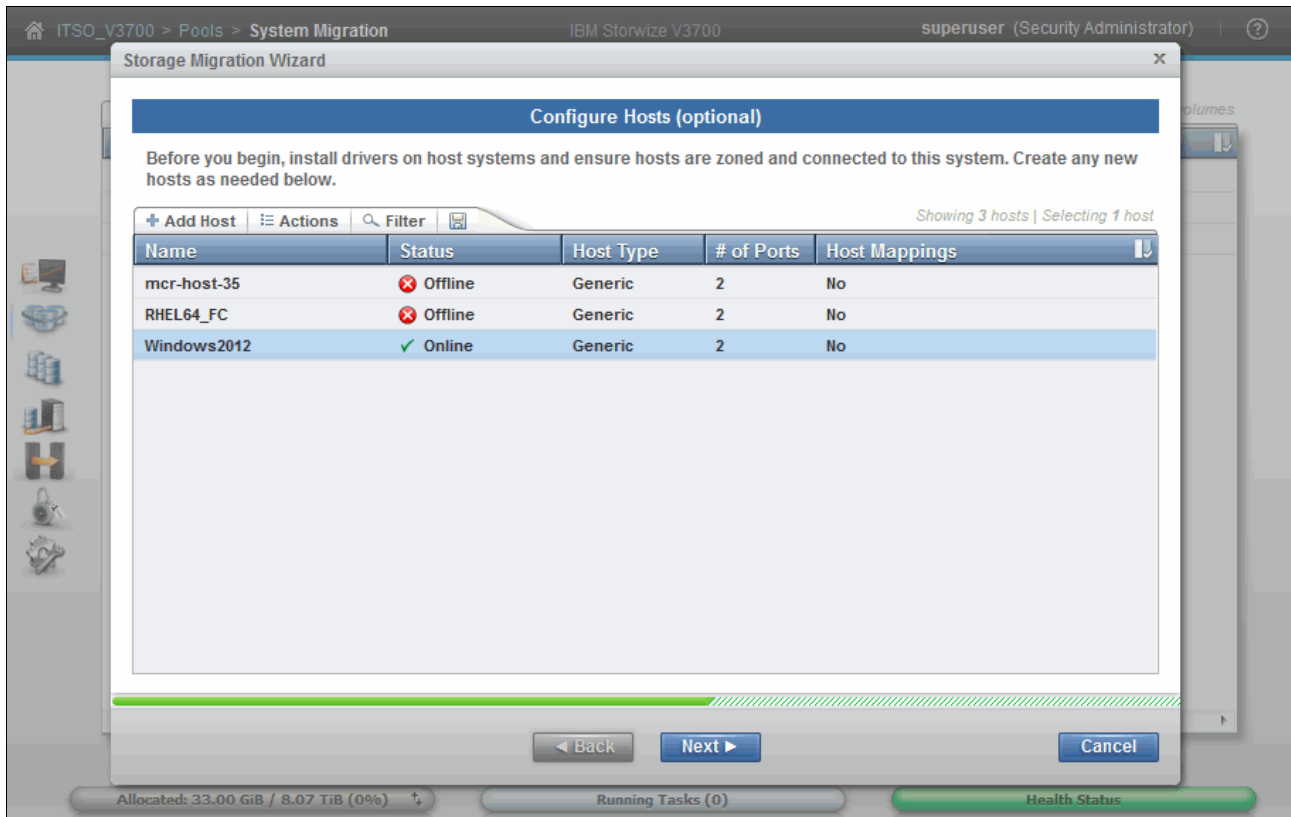

Figure 6-49 Configure host with host listed
6. Click **Close** and select the new host definition, as shown in Figure 6-49. Click **Next** to move to the next phase of the data migration.